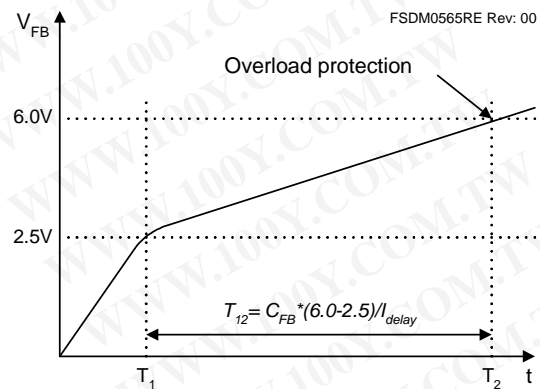

Figure 20. Overload Protection
**3.1 Overload Protection (OLP):** Overload is defined as the load current exceeding a pre-set level due to an unexpected event. In this situation, the protection circuit should be activated to protect the SMPS. Even when the SMPS is in normal operation, the overload protection circuit can be activated during the load transition. To avoid this undesired operation, the overload protection circuit is designed to be activated after a specified time to determine whether it is a transient situation or a true overload situation. Because of the pulse-by-pulse current limit capability, the maximum peak current through the SenseFET is limited, and therefore the maximum input power is restricted with a given input voltage. If the output consumes beyond this maximum power, the output voltage ( $V_O$ ) decreases below the set voltage. This reduces the current through the opto-coupler LED, which also reduces the opto-coupler transistor current, thus increasing the feedback voltage ( $V_{FB}$ ). If  $V_{FB}$  exceeds 2.5V, D1 is blocked and the 3.5 $\mu$ A current source starts to charge  $C_B$  slowly up to  $V_{CC}$ . In this condition,  $V_{FB}$  continues increasing until it reaches 6V, when the switching operation is terminated, as shown in Figure 20. The delay time for shutdown is the time required to charge  $C_B$  from 2.5V to 6.0V with 3.5 $\mu$ A. A 10 ~ 50ms delay time is typical for most applications.